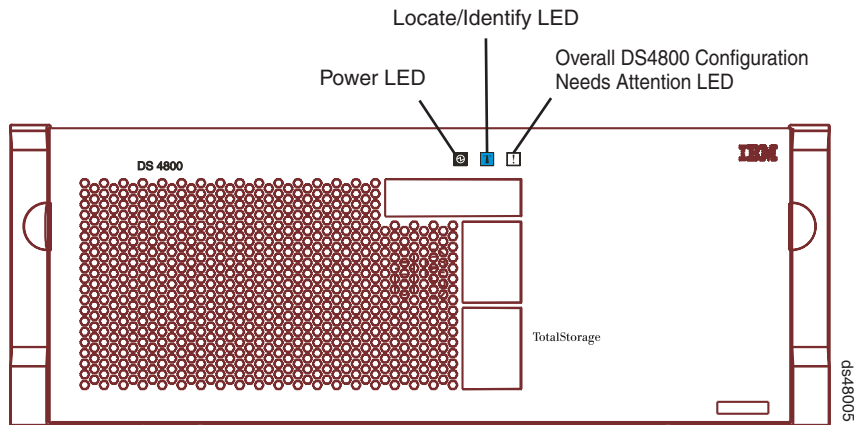

Figure 96. Overall DS4800 Configuration Needs Attention LED on the DS4800 front bezel
2. Locate the storage subsystem that has the failed SFP module by checking the Overall DS4800 Configuration Needs Attention LED on the front bezel of the storage subsystem. (Figure 96 on page 156 shows the location of the Overall DS4800 Configuration Needs Attention LED on the front bezel.)